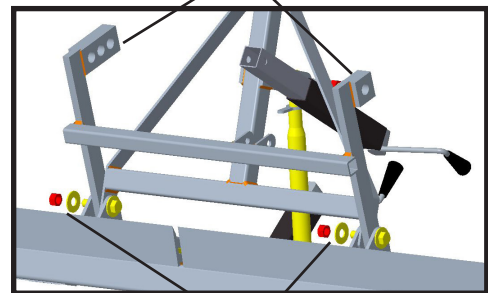

Fig 6.
7. While 1 person is holding the Tongue and Body Frame the other person can hold the wheel axle assembly in position while inserting the first bolt (with washer by bolt head) to secure the Wheel Axle assembly and Body Frame to the Scar/Profile Blade weldment. **Make certain the 1 hole and 3 hole wheel blocks are facing upwards in the same direction as the actuator.** Repeat this step on the other side (both people may need to wiggle the tongue/body frame and wheel axle assembly to align the holes so the bolts can be inserted into the unit) (Fig 6).
8. Replace washers back on to both bolts. Re-thread locknuts back on to both bolts. Tighten both locknuts using (2) 1-1/8" wrenches (or socket set) until locknuts, washers and bolt heads are firmly snug against the Scar/Profile Blade weldment brackets without bending the brackets (Fig 6).